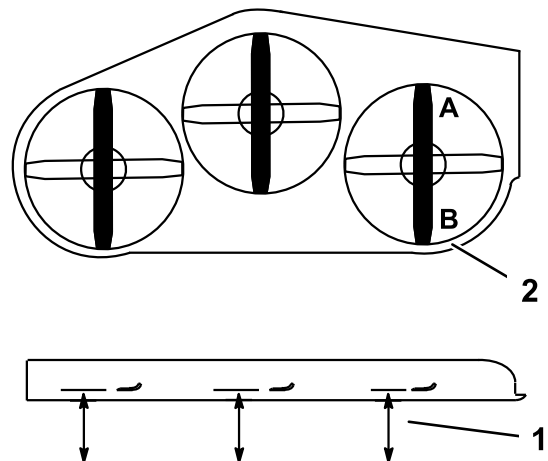

Figure 90
2. Position 1 blade front-to-rear. Measure at **A** and **B** locations from a level surface to the cutting edge of the blade tips (Figure 90).